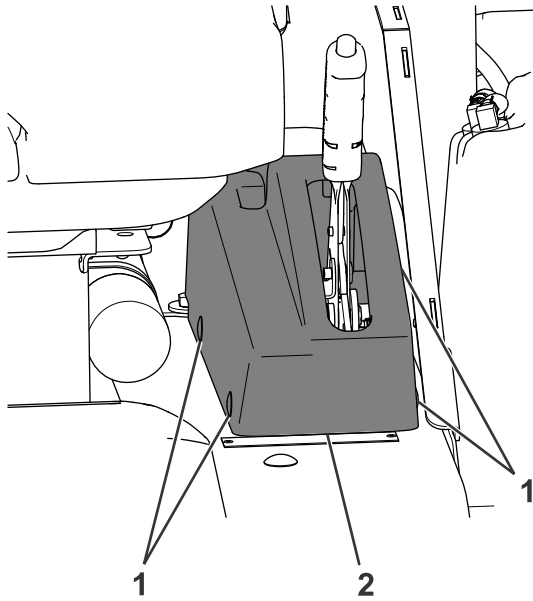

Figure 2
- Remove and discard the plastic plugs securing the parking brake cover to the machine (Figure 2). Remove the parking brake cover.
3. Install the previously removed parking brake cover using 4 new plastic plugs to secure it to the machine (Figure 2).